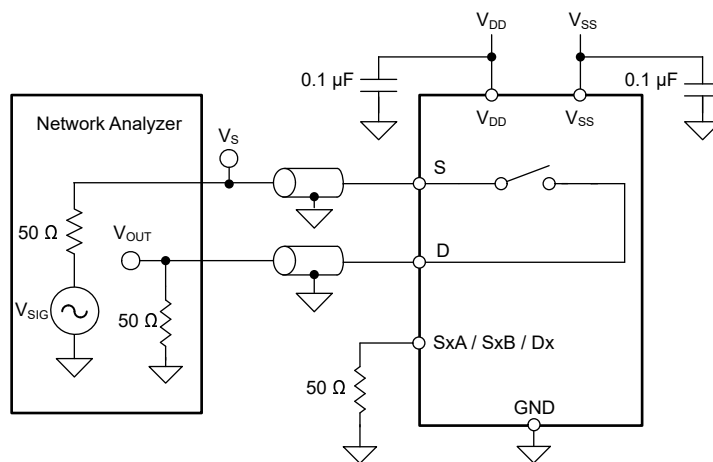

Figure 6-10. Off Isolation Measurement Setup
Off isolation is defined as the ratio of the signal at the drain pin (D) of the device when a signal is applied to the source pin (Sx) of an off-channel. Figure 6-10 shows the setup used to measure, and the equation used to calculate off isolation.